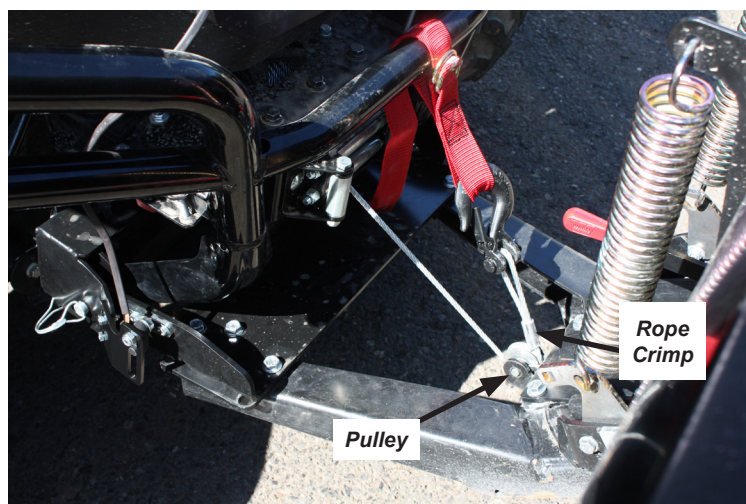

Figure 9
11. With plow assembly mounted to vehicle, route winch rope from the roller fairlead, around the pulley, and then back to the vehicle, see Figure 9.